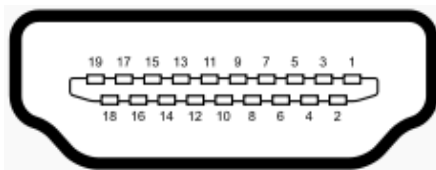

Figure 3-31: External HDMI Connector Location
- CN Location:** See Figure 3-31